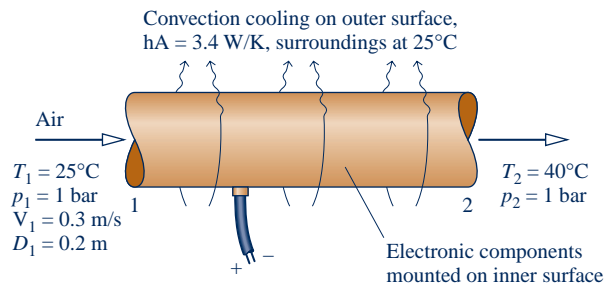

Fig. P6.96
6.96 Electronic components are mounted on the inner surface of a horizontal cylindrical duct whose inner diameter is 0.2 m, as shown in Fig. P6.96. To prevent overheating of the electronics, the cylinder is cooled by a stream of air flowing through it and by convection from its outer surface. Air enters the duct at 25°C , 1 bar and a velocity of 0.3 m/s and exits at 40°C with negligible changes in kinetic energy and pressure. Convective cooling occurs on the outer surface to the surroundings, which are at 25°C , in accord with $hA = 3.4 \text{ W/K}$, where h is the heat transfer coefficient and A is the surface area. The electronic components require 0.20 kW of electric power. For a control volume enclosing the cylinder, determine at steady state (a) the mass flow rate of the air, in kg/s, (b) the temperature on the outer surface of the duct, in $^{\circ}\text{C}$, and (c) the rate of entropy production, in W/K. Assume the ideal gas model for air.